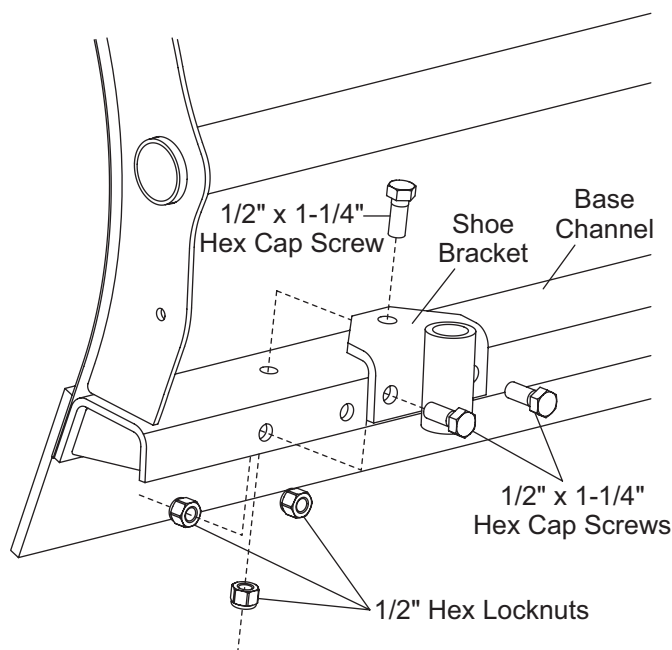

Figure 1
1. Position the shoe bracket to the blade base channel as shown in Figure 1. Align holes in shoe bracket with holes in base channel.
2. Loosely assemble each shoe bracket with two 1/2" x 1-1/4" hex cap screws and 1/2" hex locknuts through back of bracket and base channel, and one 1/2" x 1-1/4" hex cap screw and 1/2" hex locknut through the top hole in bracket and base channel. Torque fasteners to 75 ft-lbs. (See Figure 1.)